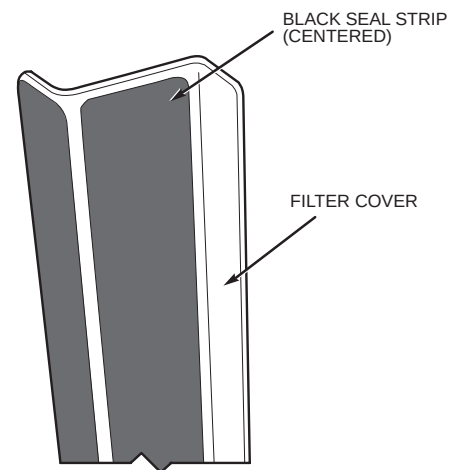

Fig. 34 — Attaching Seal Strip to Filter Cover
17. Attach black seal strip (provided) to filter cover. Seal strip should be applied centered over the holes of the one flange, making sure to fully cover holes and centered over the other large flange. See Fig. 34.